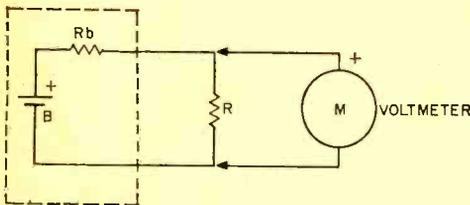

Fig. 3. Circuit using a voltmeter to check the power dissipated by the load resistor.
we learned a long time ago. In Fig. 3, you see a voltage source (B), a resistor (R), and a voltmeter (M) to measure the voltage across this resistor.
Suppose that at one power level, P_o , the battery voltage in Fig. 3 is V_o ; then the power dissipated by the resistor R, is